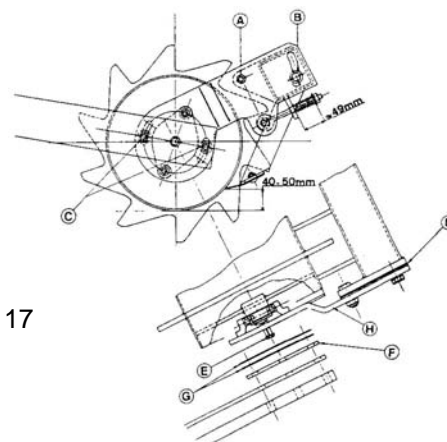

Fig. 17
- Release the bolts B. see fig 17